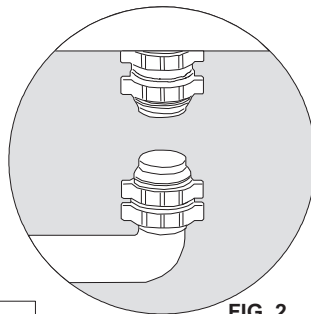
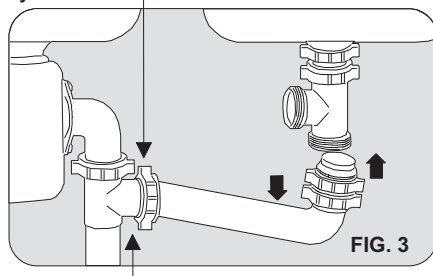

FIG. 2
FIG. 3
3. Slip S.J. nut and beveled washer over both ends of cut tube. Always face the beveled side of washer towards fitting. (See Fig. 2) Then insert the 3-way repair tee (provided), ensuring that tube ends seat completely into sockets of tee. This may be accomplished by loosening the S.J. nut joining the horizontal waste ell to the baffle tee until there is enough play to bend the waste ell down, then up into the bottom of the 3-way repair tee. (See Fig. 3)